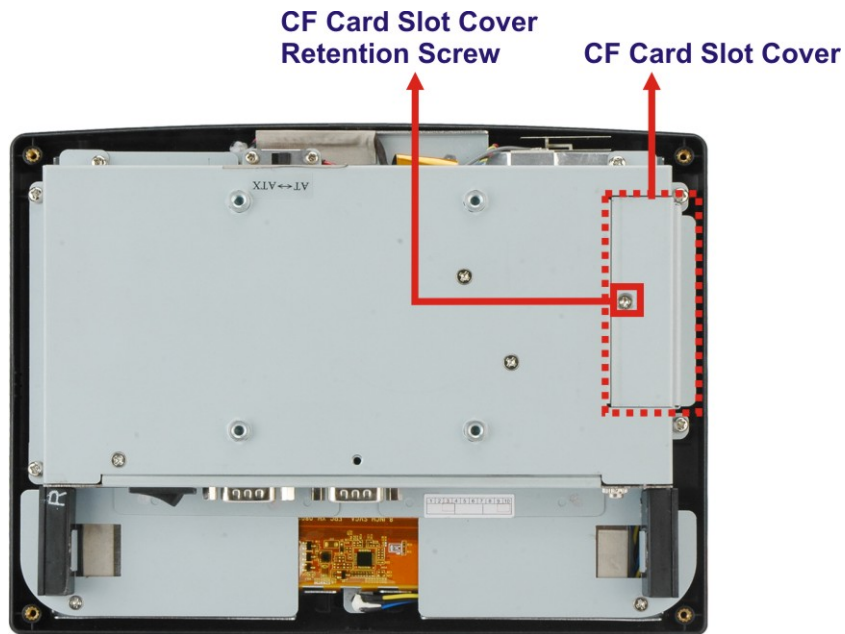

Figure 2-2: CF card slot location
Step 1: Locate the CF slot cover. Remove the retention screw and CF slot cover (Figure 2-2).